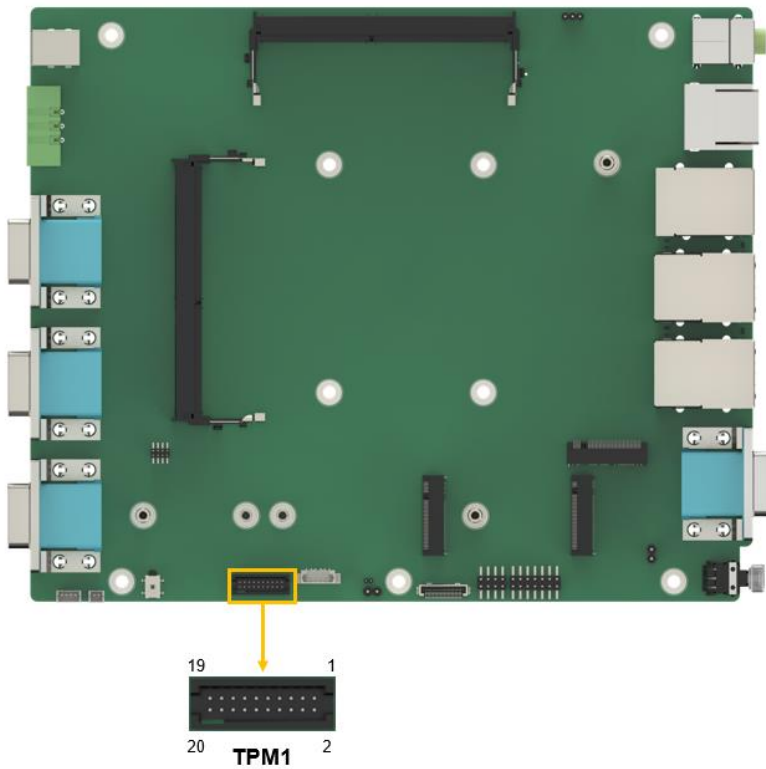

Figure 4-16: SPI TPM Connectors Location
- CN Location:** See Figure 4-16